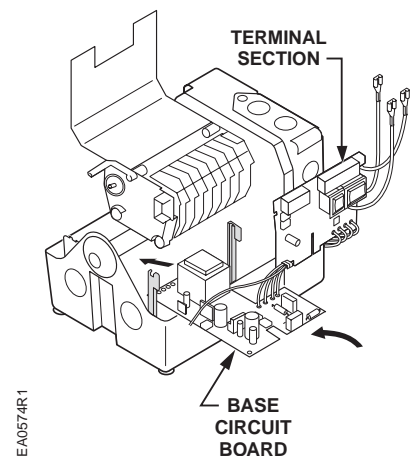

Figure 19.
4. From the switch housing side of the actuator, guide the base circuit board into the bottom of the circuit board mounting bracket. See Figure 19.